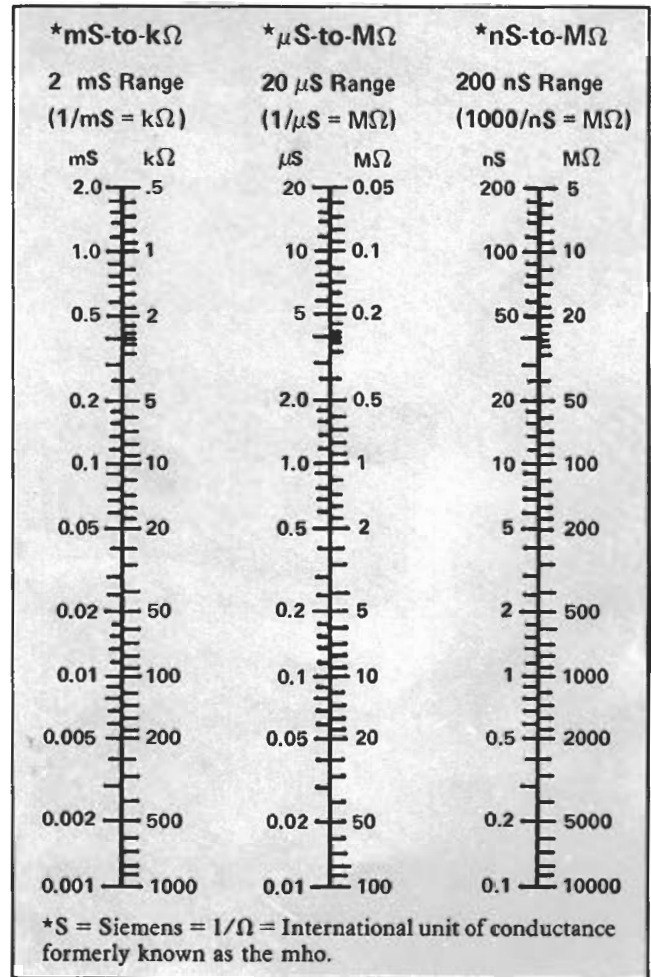

Figure 1. CONDUCTANCE-TO-RESISTANCE CONVERSION
What is this new function called conductance? The easiest way to understand it is to think in terms of resistance which we are all familiar with. A unit of resistance is a unit of opposition to current flow. Conductance by definition is the opposite (i.e., inverse) of resistance. Hence, think of conductance as being a unit expressing the ability of a material to **allow** current to flow **instead of opposing** it. When resistance decreases, conductance increases and vice versa. The unit of conductance is the Siemens (S), and it is a simple matter to move from conductance units to resistance units since $S=1/\text{ohm}$. Hence, resistance and conductance can be thought of as two different ways to express the same electrical concept. Shown in Figure 1 are conductance-to-resistance graphs for the three ranges.